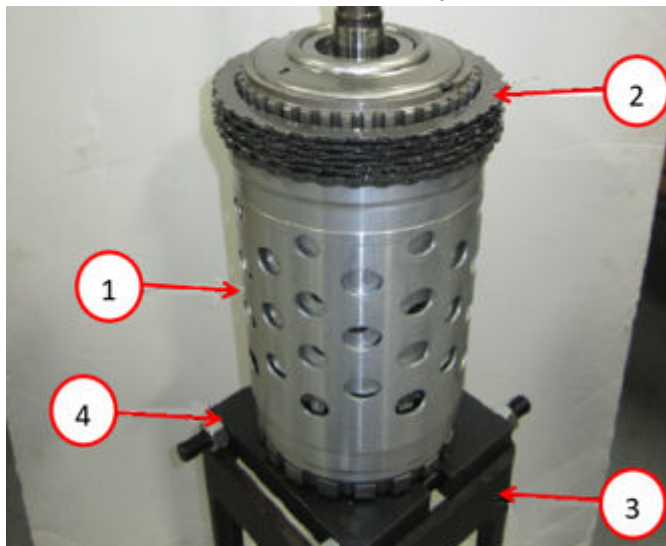

Fig. 20
29. Remove the P1 annulus/B clutch hub assembly from the P4 annulus drum Fig. 20.